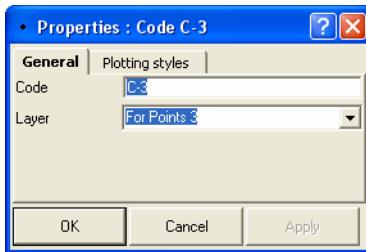

Figure 4-92. Edit Code Name
5. To edit the code name, right-click the code's name and click **Properties** on the pop-up menu. Edit the code's name and click **OK** (Figure 4-92).